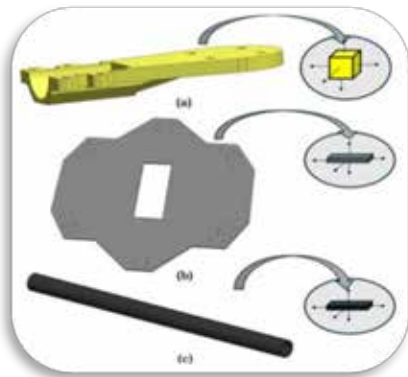

Figure 4.
**Excerpt - Finite Element Analysis for the Hexacopter** - This section presents the methodology followed to use the finite element method in the mechanical analysis of a hexacopter UAV. In this particular case, three fundamental pieces were analyzed: the carbon fiber tube, the motor bracket, and the skeleton (see Figure 4). In order to validate the mechanical response of the first two components, some experimental tests were performed. After that, the three components were analyzed under the operation conditions.